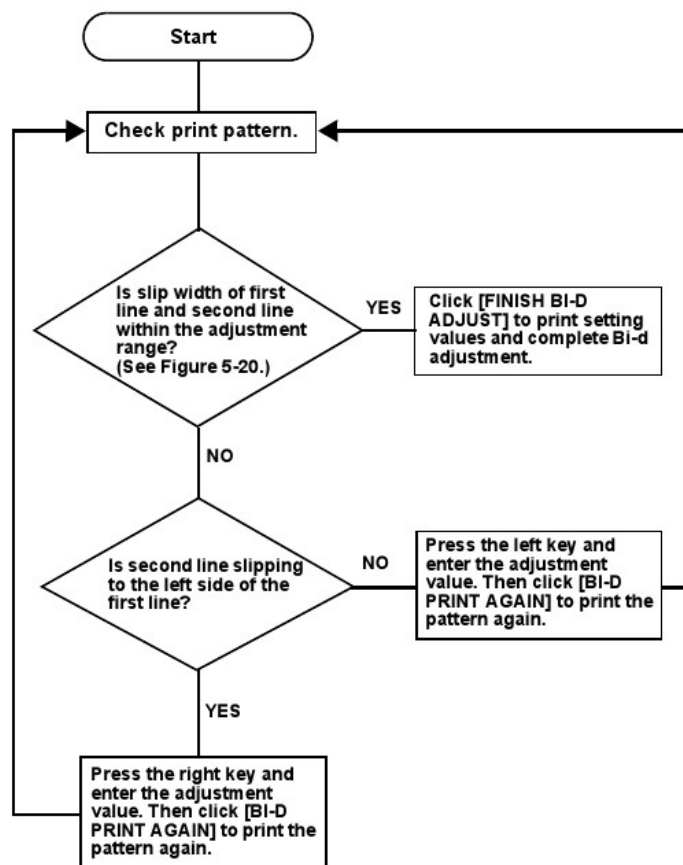

Figure 5-21. Bi-d Adjustment flow
9. Check the first line and second line of the printed patterns. If slip width of the first line and second line is similar to the range shown below, follow the flow of Figure 5-21 to make adjustments.